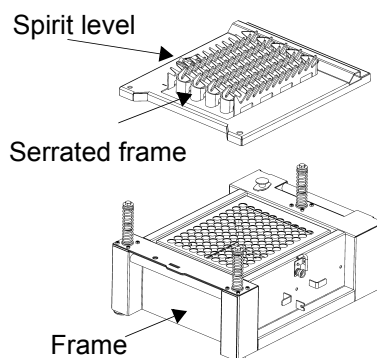

Figure 1.2 Frame and serrated frame
- 2) Frame + serrated frame + spirit level (figure 1.2)